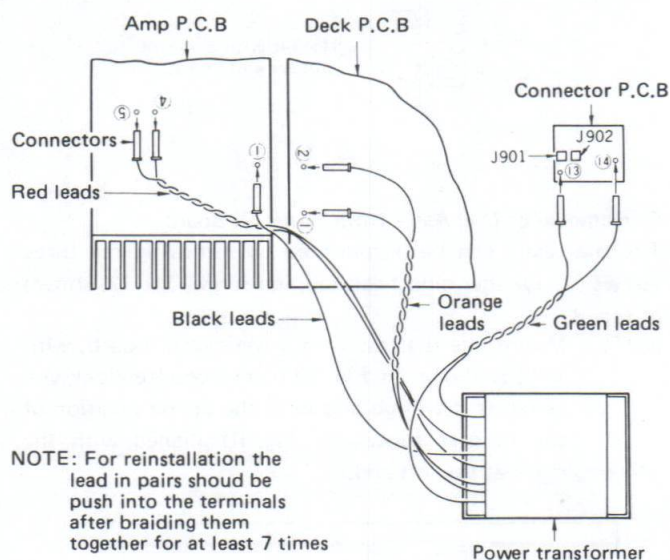

Fig. 2
- 6) Remove the shaft's E-ring (Fig. 2). The shaft will come off toward your side.
- 1) Remove the 14 screws ① (black bind head tapping screw, 3 x 16).
- 2) Remove the screw ② (black bind head tapping screw, 3 x 16).
- 3) Unscrew the two screws ③ (black bird head, M3 x 8) and shake proof washer on the threaded section to the right.
- 4) Remove the screw ④ (black bind head tapping screw, 3 x 10).
- 5) Remove the four screws ⑤ (black bind head tapping screw, 4 x 10).
- 6) When the two screws ⑥ (black bind head tapping screw, 3 x 12) are removed, the power switch c. board and knob will come off.
- 7) Pull out the lead connectors from the transformer (Fig. 2) at 7 points.